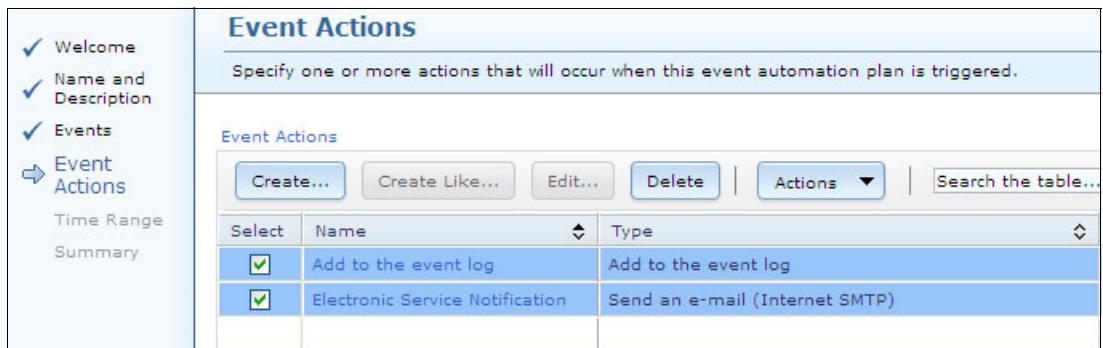

Figure 7-51 Create Event Automation Plan Wizard Event Actions window
11. Select the **Add to the event log** and **Electronic Service Notification** event actions as shown in Figure 7-51. You created the Electronic Service Notification action in 7.4, "Automating tasks with event automation plans" on page 271. It sends an email notification with event information.